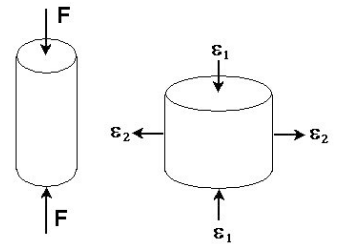

Fig.9
- As shown in Fig.9 if longitudinal strain is compressive than lateral strain is tensile and vice-versa.
3) **Bulk Modulus** (K) = $\frac{\text{Stress}}{\text{Volumetric Strain}} = \frac{\sigma}{\frac{\Delta V}{V}}$